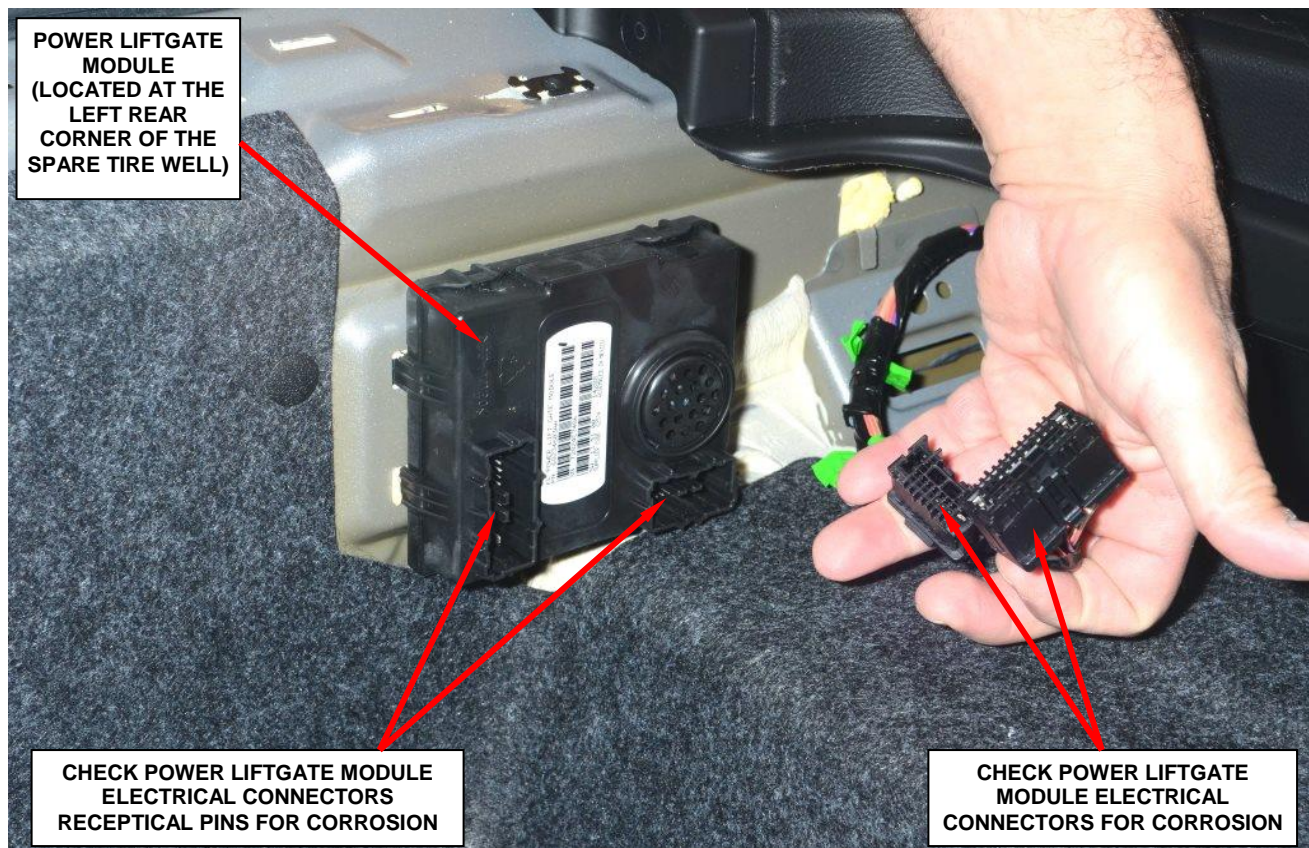

Figure 4 – Inspect Power Liftgate (PLG) Module Electrical Connectors for Corrosion
10. Disconnect both PLG module electrical connectors (Figure 4).
11. Inspect the PLG module electrical connectors for corrosion (Figure 4):